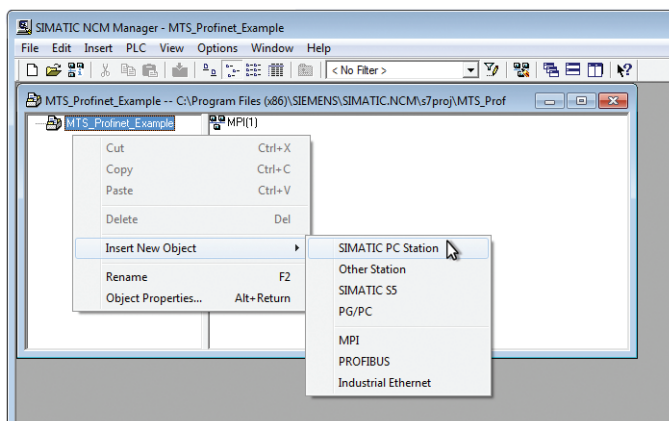

Fig. 26: Add a controller to the project (source: Siemens)
3. Add a controller to the project. For this, proceed as described below (Fig. 26):